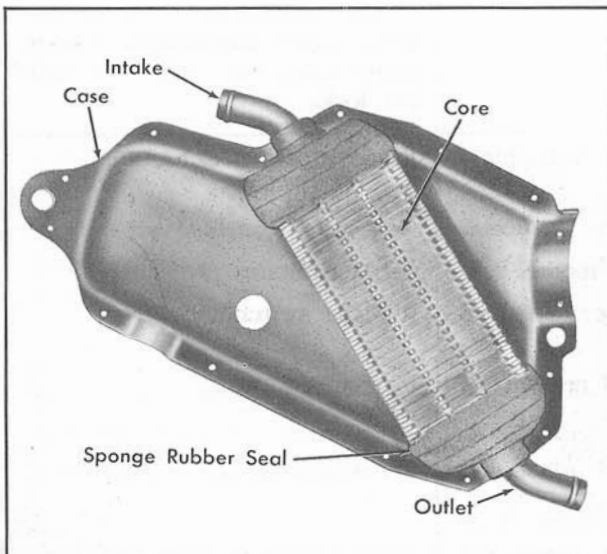

Fig. 14-5 Rear Heater Case Section and Core
7. Drill out the twelve metal rivets that join the two heater core case sections, separate sections, and remove core, Fig. 14-5.